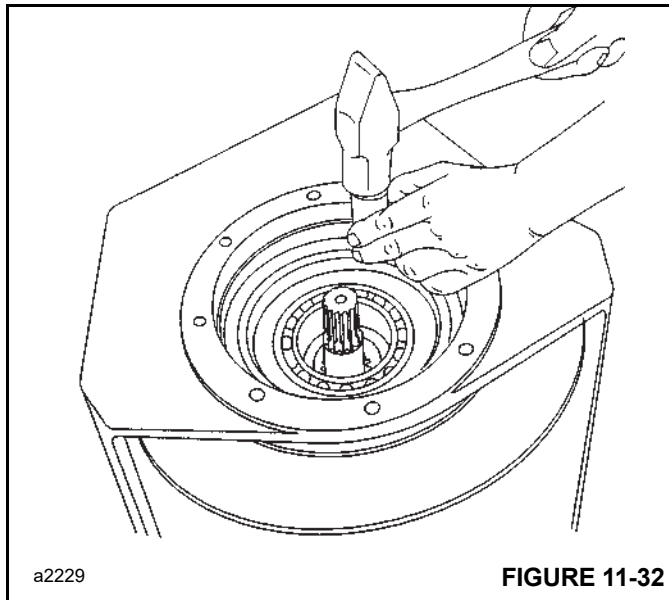

FIGURE 11-32
- 11. Lubricate the O-ring and drum opening with petroleum jelly or gear oil and install the drum closure (Figure 11-32) into the drum.